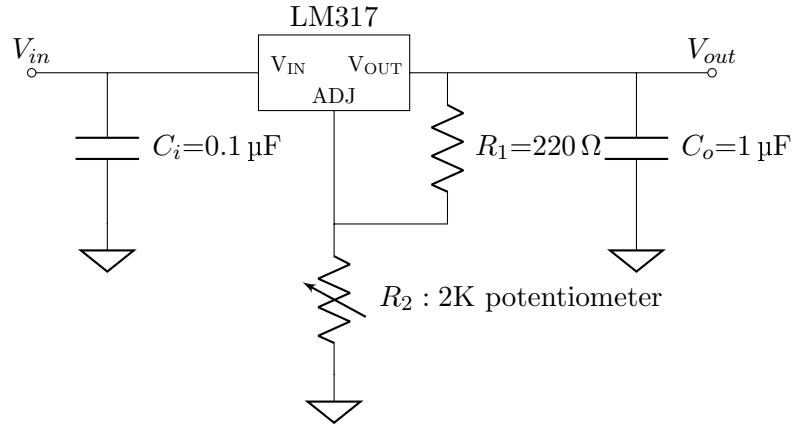
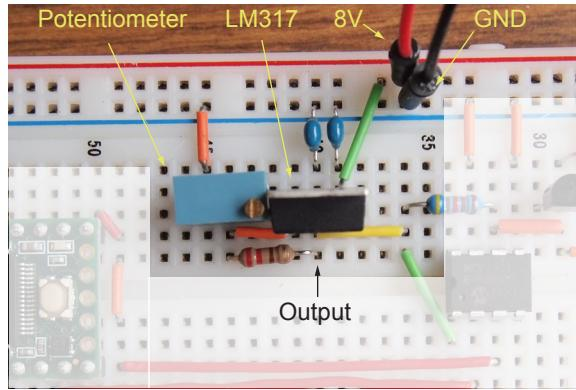
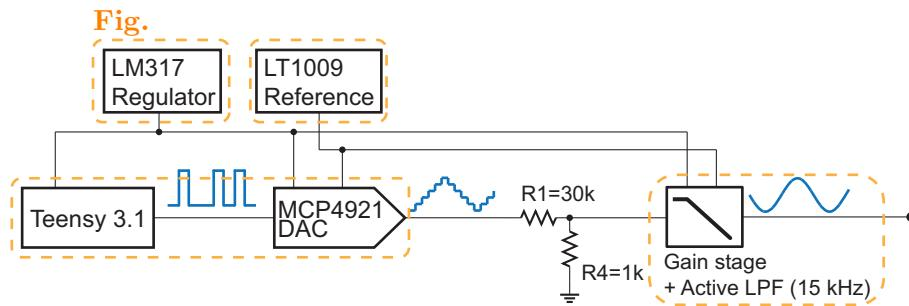

Figure 7: Schematic of the voltage regulator circuit using LM317.
Figure 8: An example breadboard layout of the circuit in Fig. 7.
Figure 18: Block diagram of the PCB design.
1. Using Fig. 7 as a reference, build the regulator circuit on the breadboard. You should be able to find the LM317 pinout diagram from its datasheet, which you find from online. *As a general suggestion, it is important to keep your circuit well laid out and keep the connecting wires as short as possible. Cut the wires to the right length if necessary.* Fig. 8 shows an example breadboard layout for the LM317 regulator circuit in this lab.
Design a PCB incorporating the circuits of Fig. 7, 9, 12, and 14. We will add a resistive attenuator circuit just so that the output does not easily saturate. Fig. 18 shows a high level block diagram of the PCB.